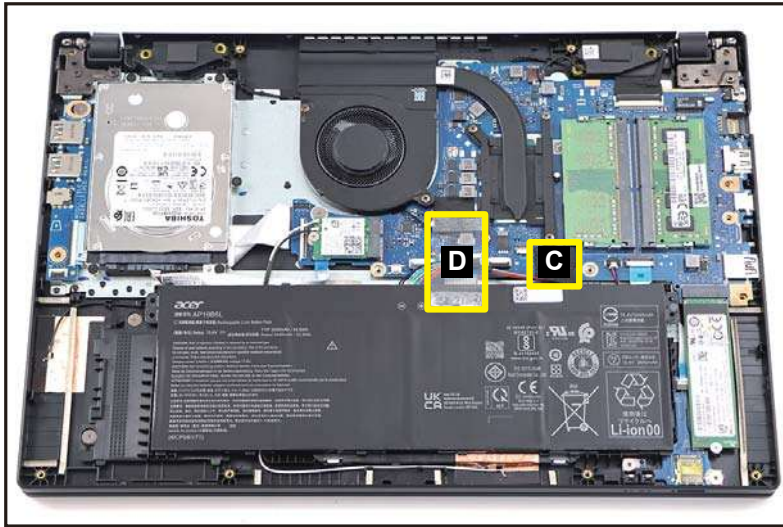

Figure 3-127. Replacing the Battery Pack
3. Attach the tape (C) to secure the battery cable connection (Figure 3-127).
4. Attach the transparent mylar (D) to secure the cables in place (Figure 3-127).